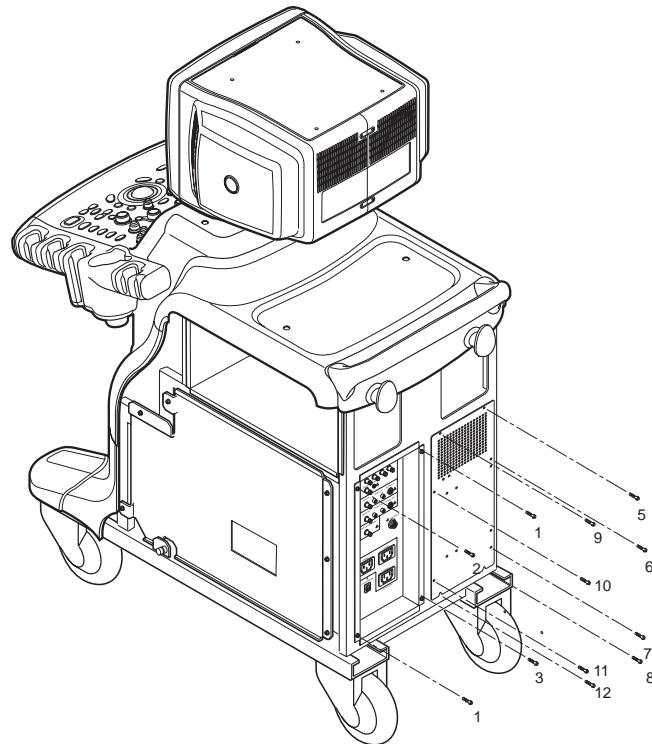

Figure 8-68 Unscrew 8 screws to remove EMI brkt
- 5.) Unscrew four(4) Screw (1-4) to remove rear Panel Assy.
- 6.) Unscrew eight (8) screws (5-12) to remove the EMI rear Bracket. Refer to Figure 8-68.